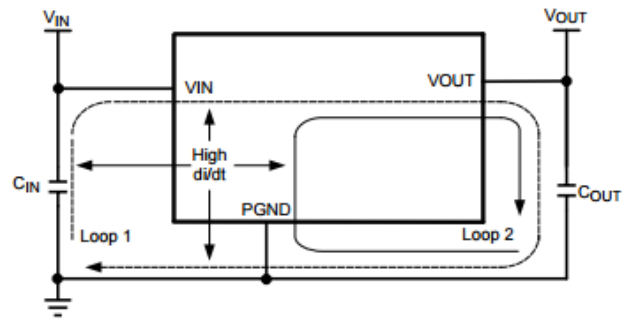

Figure 53. Critical Current Loops to Minimize
From an EMI reduction standpoint, it is imperative to minimize the high di/dt paths during PCB layout as shown in Figure 53. The high current loops that do not overlap have high di/dt content that will cause observable high frequency noise on the output pin if the input capacitor (C_{IN}) is placed at a distance away from the LMZ13608. Therefore place C_{IN} as close as possible to the LMZ13608 VIN and PGND exposed pad. This will minimize the high di/dt area and reduce radiated EMI. Additionally, grounding for both the input and output capacitor must consist of a localized top side plane that connects to the PGND exposed pad (EP).